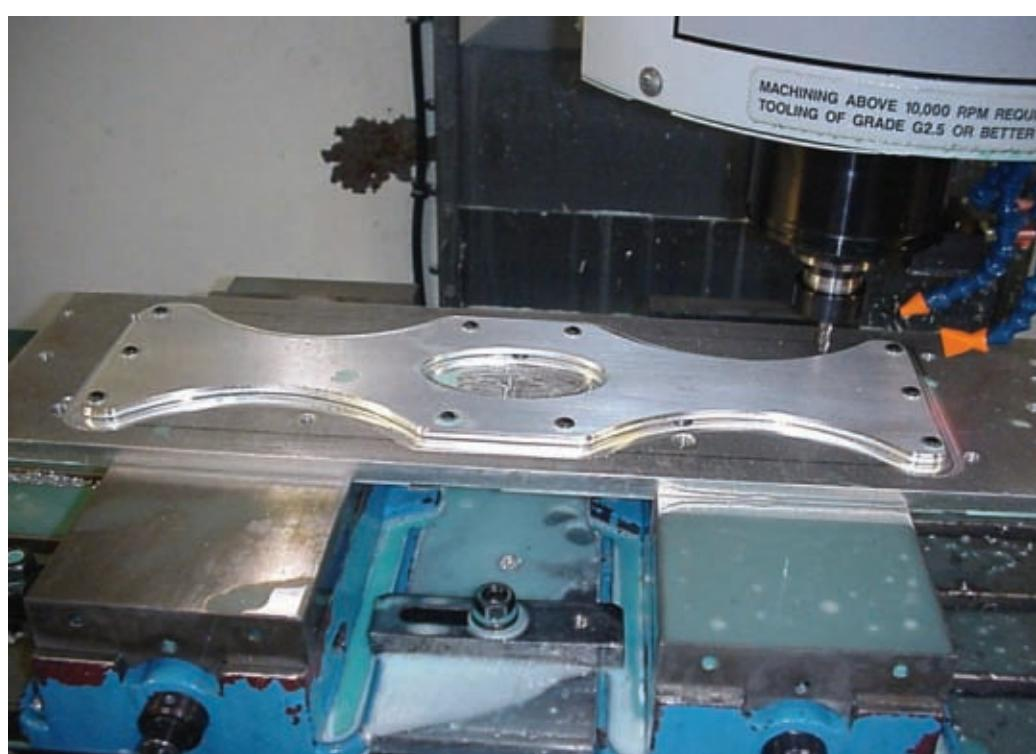

Figure 4-5 A chamfer is being 3D cut on the perimeter of this part.
4. For most chamfering, use a ball nose or hog nose end mill, and program the chamfer using a 3D cut. (see Fig. 4-5)
The young programmer mentioned earlier got into hot water once using this method. He was making the part shown in Figure 4-5. The part has a .1" chamfer around the perimeter and the center window. The customer was waiting for the